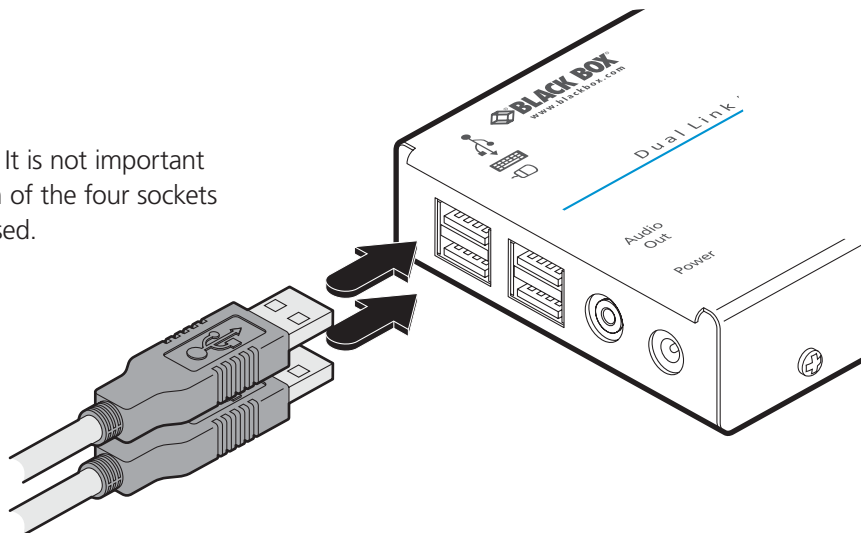

Figure 3-10. Attaching the keyboard and mouse USB cables
- 1 Connect the leads from the keyboard and mouse to two of the USB sockets on the remote module as shown in Figure 3-10: